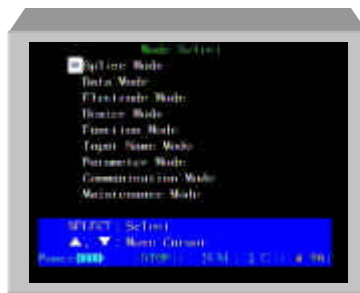
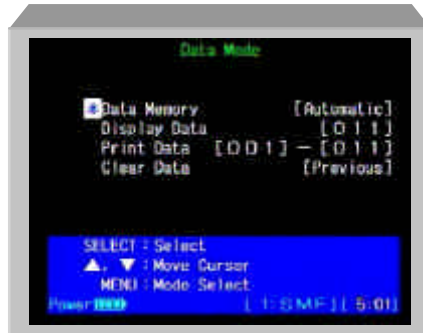

Figure 28. Mode Select Screen
Figure 29. Data Mode Menu
13.2.1 To enter the MODE SELECT screen, press the "MENU" key. The MODE SELECT screen (Figure 28) provides access to the following mode functions:
1. From the MODE SELECT screen shown in Figure 28, choose DATA MODE and press "SELECT" to view the menu screen shown in Figure 29.
1. Move the cursor to DATA MEMORY as shown in Figure 29 and press "SELECT" to highlight the action block.
1. From the DATA MODE menu shown in Figure 29, move the cursor to "Display Data" and press "SELECT" to highlight the numeric action block.
1. From the DATA MODE menu shown in Figure 29, choose PRINT DATA and press "SELECT" to edit the start and stop printing range.
1. From the DATA MODE menu screen shown in Figure 29, choose "Clear Data" and press "SELECT" to edit the action block.
13.4.1 The electrode mode is entered from the MODE SELECT screen shown in Figure 28.